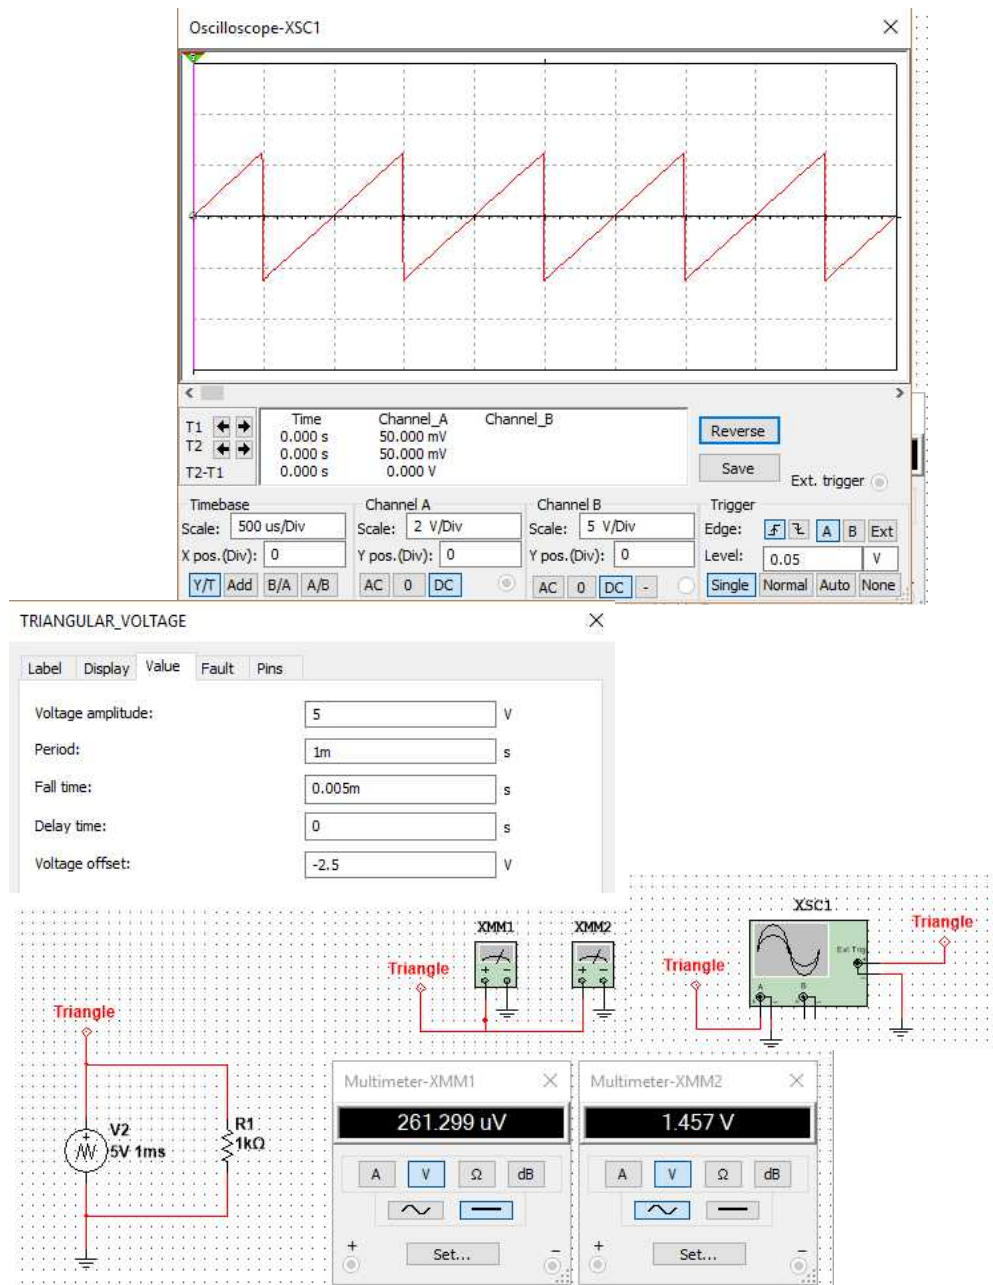

Figure 4-82.
- 4-78 Use Multisim to generate and display the triangle waveform (using the oscilloscope). Using the multimeters display the average (DC) and rms (AC) values of the waveform. Figure 4-82 provides hints. The triangle wave has a peak-to-peak value of 5 V. The frequency is 1 kHz, which means the period is 1 ms. The voltage offset is -2.5 V. The causes the waveform to be ± 2.5 V around 0 V. The circuit wiring is simplified by using on-page connectors. Double clicking on the triangle generator schematic symbol will cause its value-edit window to pop up. Duplicate the circuit and conditions shown in Fig. 4-82. Once you are confident in its set up and results, change the triangle generator to produce 3-V p-p waveform at a frequency of 120 Hz riding on a 16.5-V DC level. The trigger level for the single sweep of the oscilloscope can be set to 15.5 V.